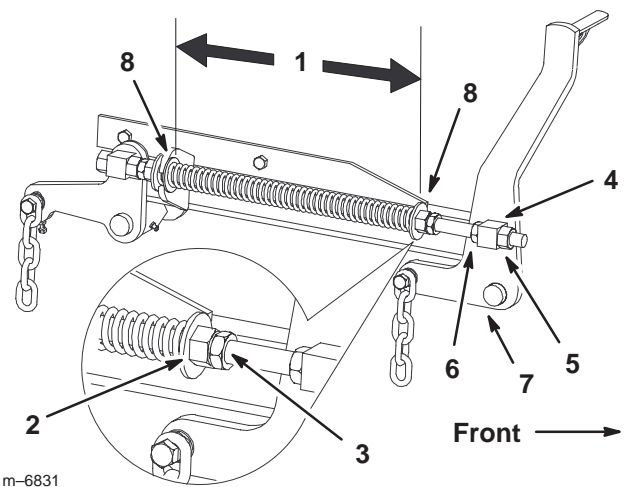

Figure 69
7. Loosen the front swivel jam nuts, at the front of the right and left swivels, approximately a 1/2 inch (13 mm) (Fig. 69).
8. Adjust the lift nuts on both the left and the right side of the machine to achieve **1/4 to 3/8 inch (6 to 10 mm) lower in front at A than in the rear at B** (Fig. 69).
1. Raise the mower lift lever to the transport position (Fig. 69).
2. Check the distance between the two large washers, it needs to be 11-1/8 inches (28.3 cm) (Fig. 69).
3. Adjust this distance, by loosening the spring jam nut and turning the nut in front of each spring (Fig. 69). Turning the nut clockwise will shorten the spring; counter-clockwise will lengthen the spring.
4. Lock the nut into position by tightening the spring jam nut (Fig. 69).